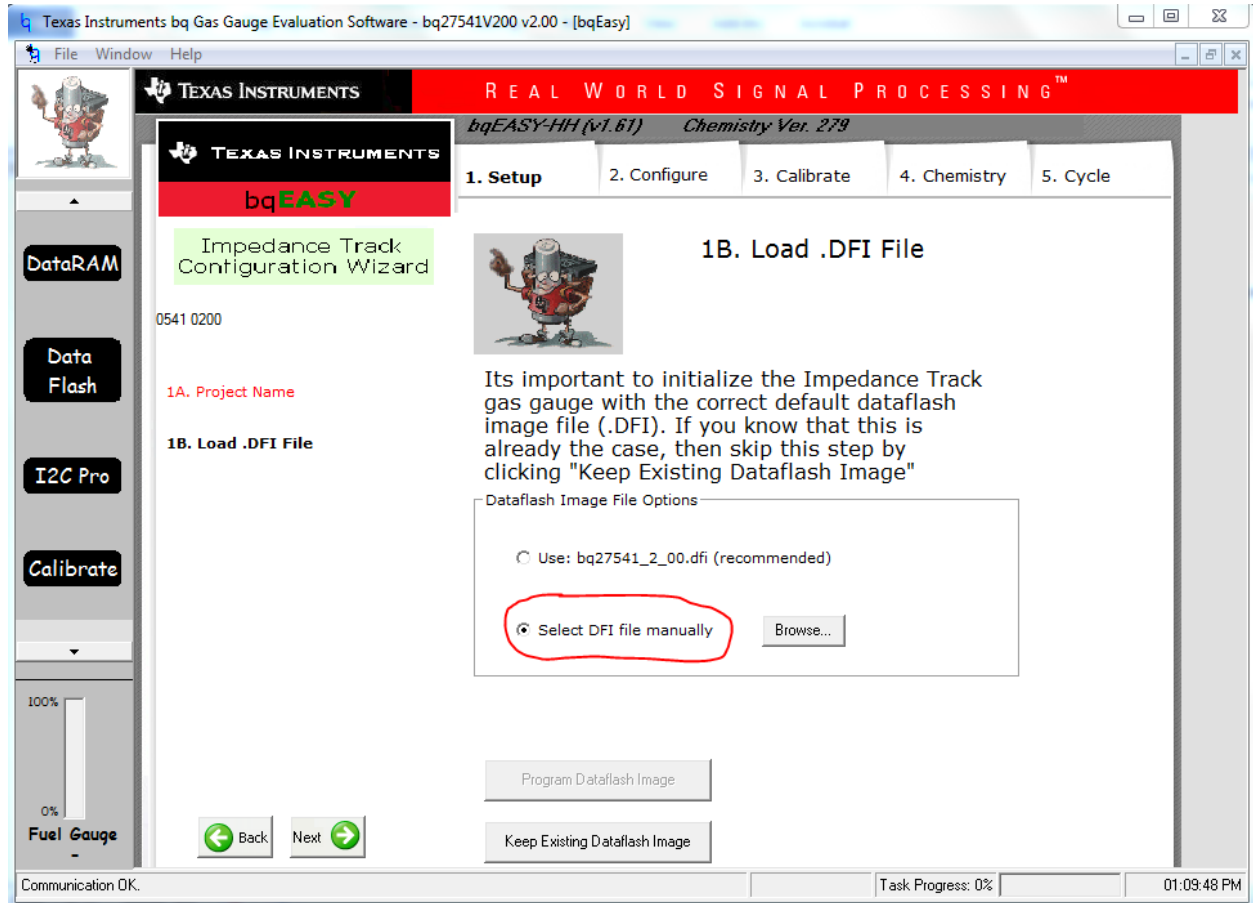

Figure 5: Select DFI file manually in bq Evaluation Software
6. Select DFI manually as shown in Figure 5.